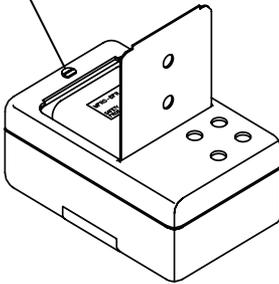

Figure 13 - Battery Compartment
- Click on the Utility menu, then on Archive Data, or simply click on the Archive Data button on the toolbar of the Main Screen. This brings up the Archive Data dialog box (See **Figure 13**), which lists all the files available.
Open battery compartment by turning the screw (See **Figure 13**) a half turn counterclockwise to release.